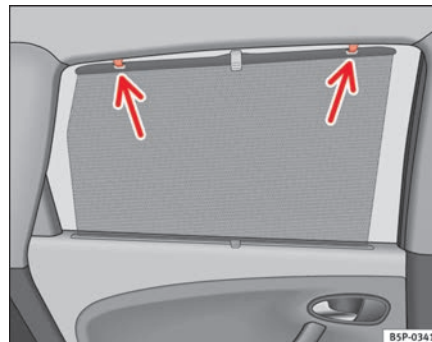

Fig. 84 Rear door sun visor
- Pull out the visor and hook it onto the hooks at the top of the door frame ⇒ fig. 84. ■